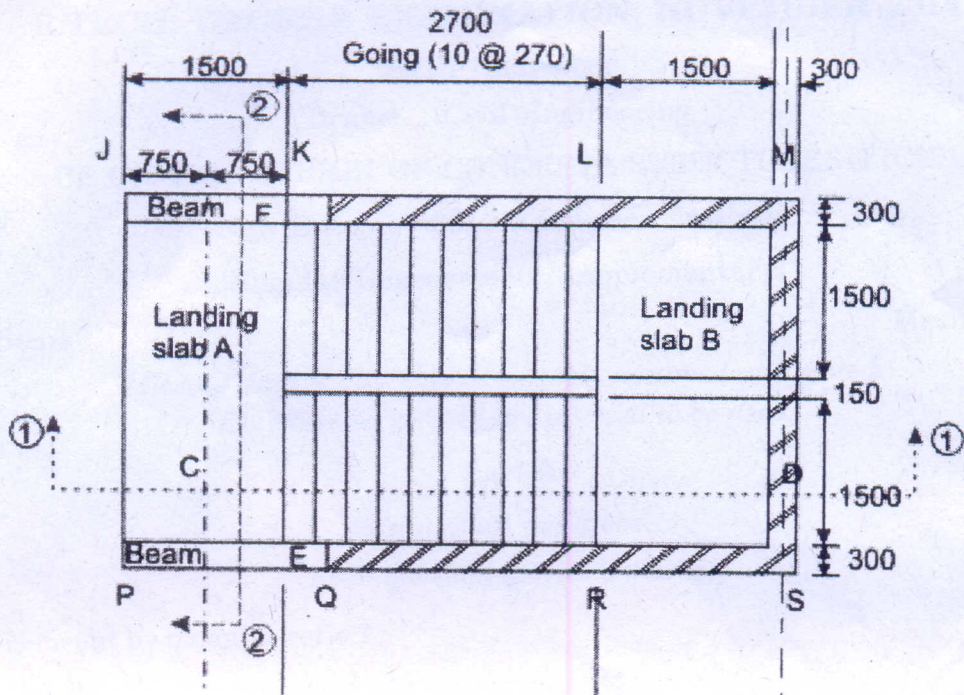

Fig1.
20. Design the waist-slab type of the staircase of Fig. 1 (Page on 3). Landing slab A is supported on beams along JK and PQ, while the waist-slab and landing slab B are spanning longitudinally as shown in Fig. 1. The finish loads and live loads are 1 kN/m² and 5 kN/m² respectively. Use riser R = 160 mm, trade T = 270 mm, concrete grade = M 20 and steel grade = Fe 415.